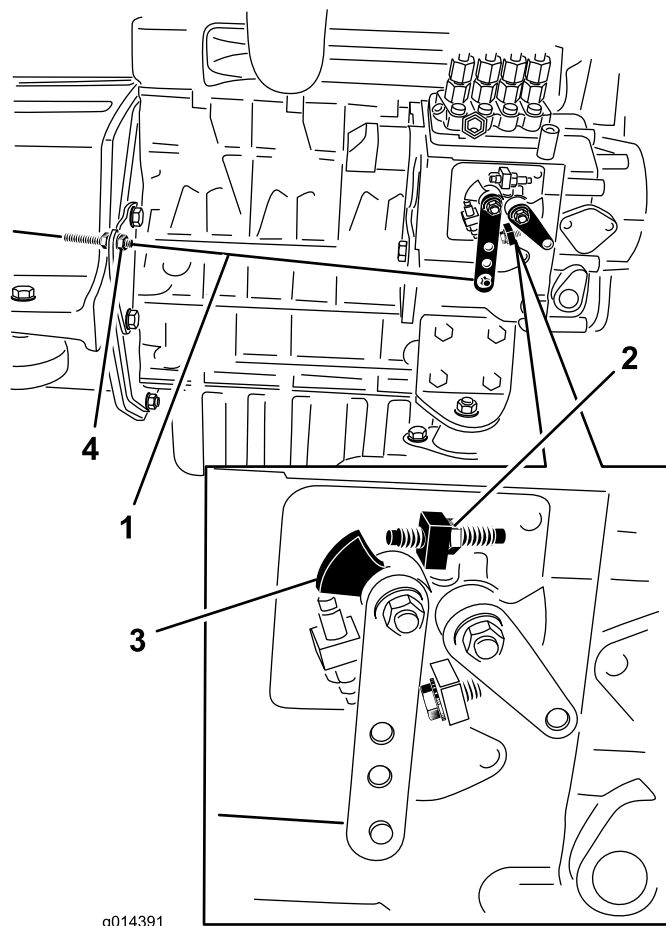

Figure 35
2. Check the position of the speed control lever on the engine fuel injection pump. The speed control lever should be contacting the high speed screw when the throttle control lever is in the FAST (detent) position (Figure 35).
3. If necessary, the position of the throttle control cable jam nuts can be adjusted until speed control lever contacts high speed screw when throttle control lever is at FAST (detent) position (Figure 35). **Do not adjust the high speed screw on the speed control lever.**